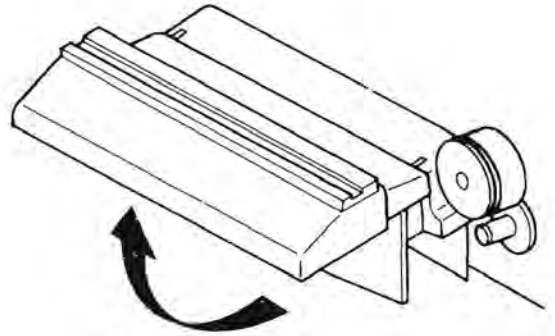
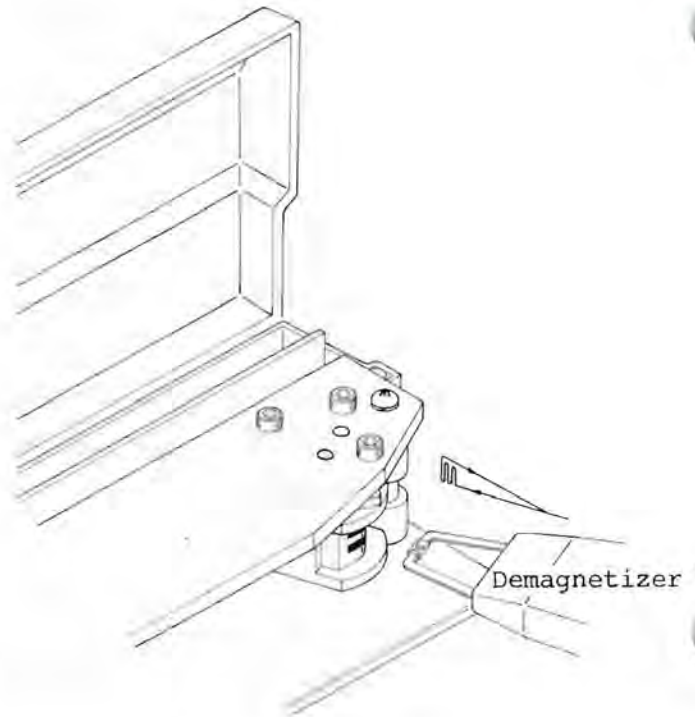

Fig. 4-1 Lifting the Head Cover
Fig. 4-2 Demagnetizing
- (1) Lift the head cover as illustrated in Fig. 4-1.
- (2) Clean each head stack thoroughly with a cottontipped applicator dampened with head cleaner.
- (1) Turn the unit's power off and remove any recorded tape near the transport. The tape could be partially erased by the demagnetizer.
- (2) Lift the head cover as illustrated in Fig. 4-1.
- (3) Cover the demagnetizer tips with adhesive tape to prevent scratching the head stacks.
- (4) With the demagnetizer held away from the transport, connect the demagnetizer to a power source.
- (5) Move the demagnetizer tips slowly close to the head, lightly touch the face of one head stack and slowly move the tips up and down the stack several times. Then slowly withdraw the demagnetizer as shown in Fig. 4-2.
- (6) Repeat step five for each head stack.
- (7) Repeat the procedure in step five for each guide and other metallic parts in the tape path.
- (8) Move the demagnetizer slowly away from the transport for at least three feet, and then disconnect the power from the demagnetizer.